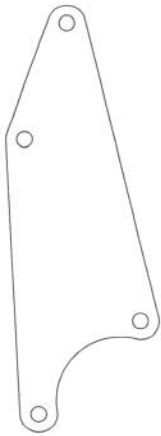

FIGURE D1
1. Bolt the rear power steering bracket to the port side head using the two outermost mounting holes on the head. Orient as shown in Figure D1. Use the factory 7/16" x 1" bolt in the lower hole and leave the upper hole vacant.